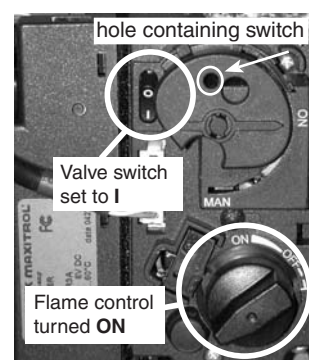

Fig. 18-5
- D. G10-16/18-01V(P) - Set control to manual. Press O/I to I (see Fig. 18-5).